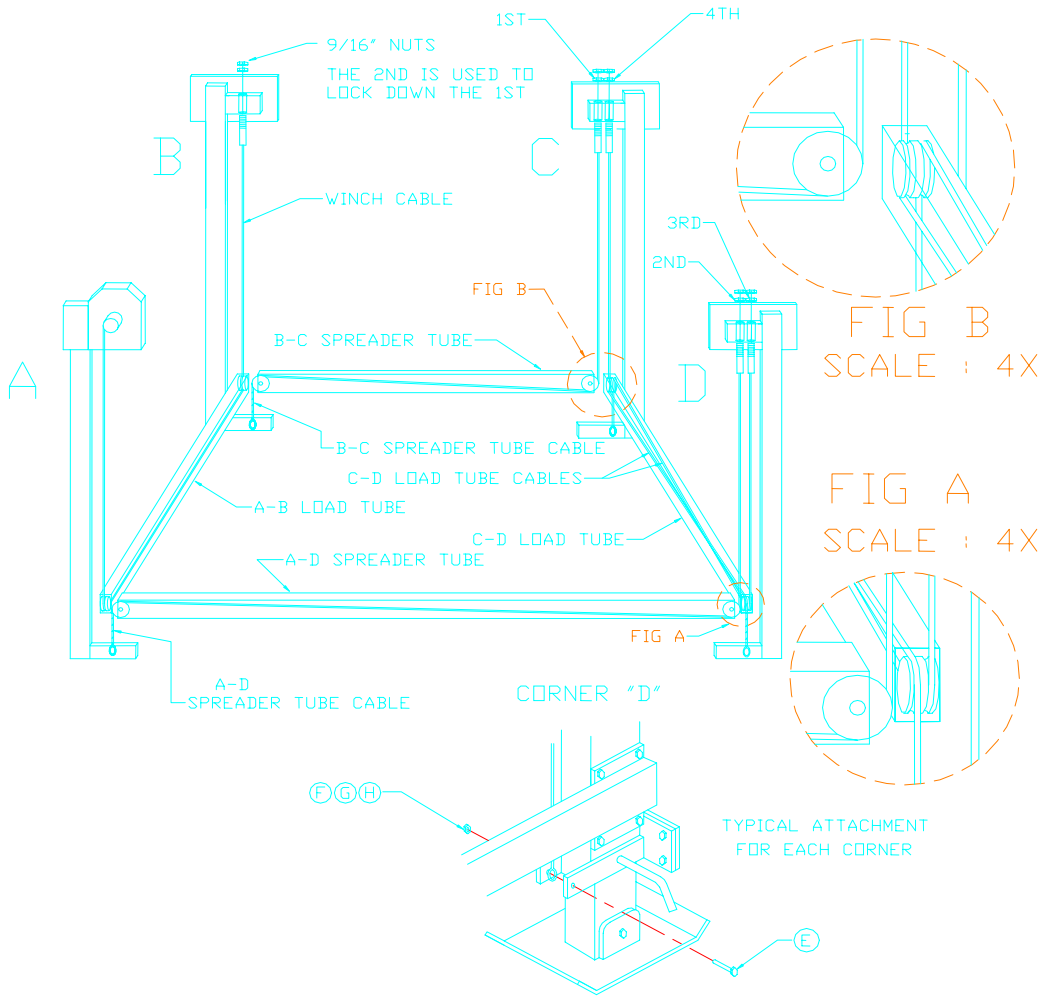

Figure 3-8
2. Refer to Figure 3-8. The load and spreader tubes are already reeved. Fasten the cable end loops to the bracket provided at the bottom of each of the four vertical legs.
3. Using a 7/8” open-end wrench, tighten the cable studs opposite the cable end loops in the following order. The following step numbers correspond to the step numbers shown in Figure 3-8.
1. Refer to Figure 3-8. Attach the A-B load tube cable stud to vertical leg "B" .